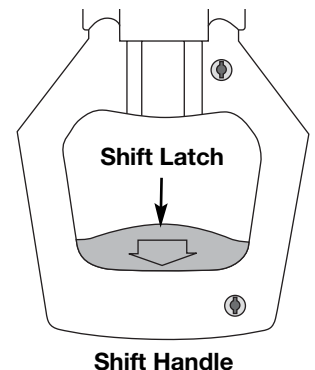

Fig. 3
1. If the shift handle is in the UP position, grasp the red shift latch (Fig. 3) on the shift handle and squeeze until the internal locking mechanism releases.
1. If the shift handle is in the DOWN position, grasp the red shift latch (Fig. 3) on the shift handle and squeeze until the internal locking mechanism releases.